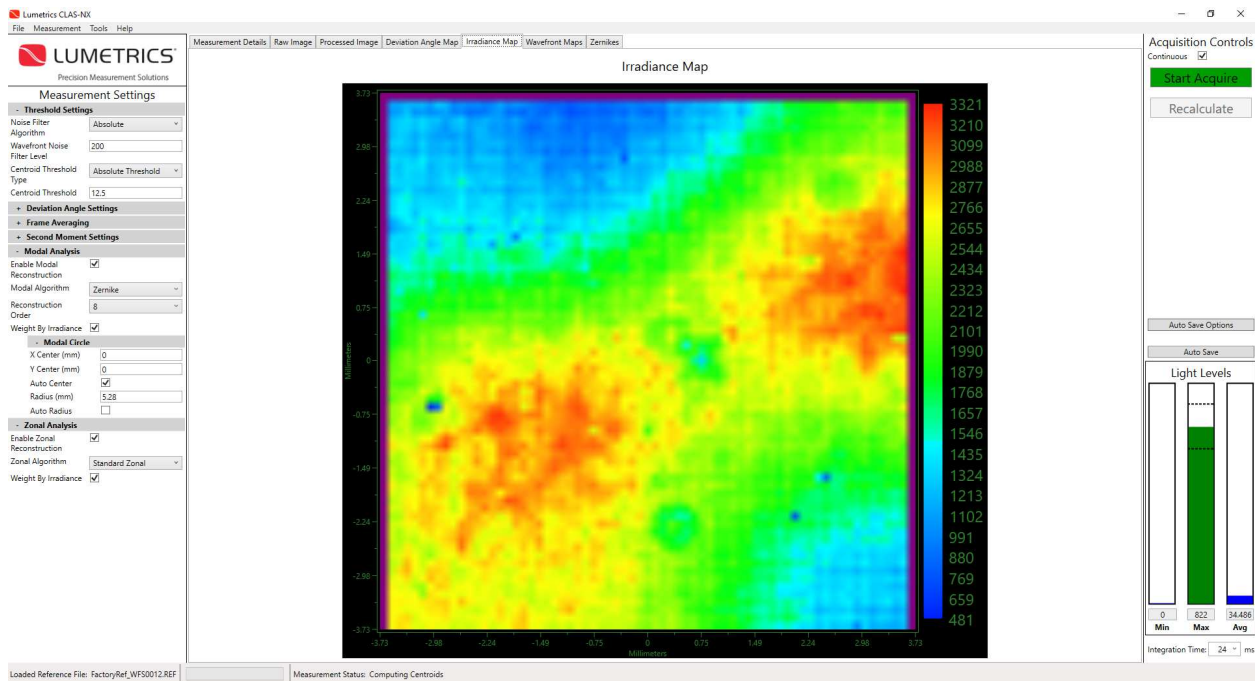

Figure 42: Irradiance showing fairly even illumination
2. Open the irradiance tab and confirm the sensor is mostly evenly illuminated, see Figure 42.